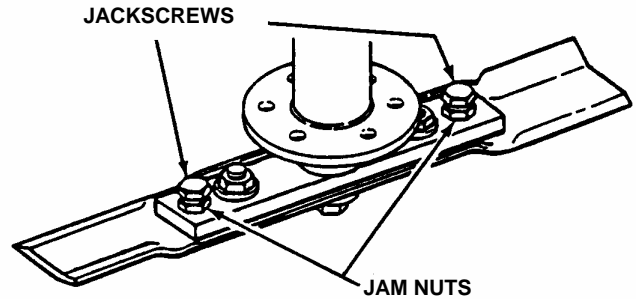

FIGURE 4.6
- b. Adjust jack screws "IN" or "OUT" until blade tip measurements are within $1/16"$ of each other and blade tips are $3/8"$ away from deck lip. See Figure 4.6.